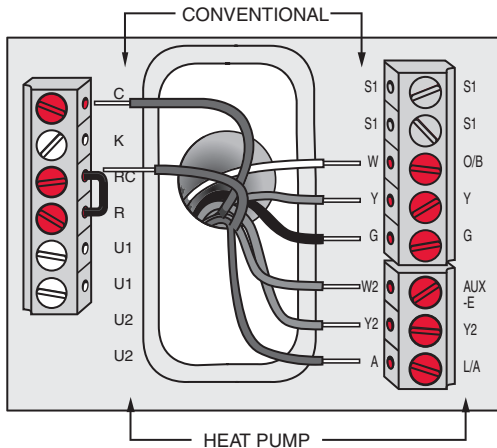

Fig. 13. Thermostat wired directly to equipment.
1. Refer to Fig. 13. See Table 9 on page 84 for terminal designations and "Wiring" beginning on page 84 for more information.